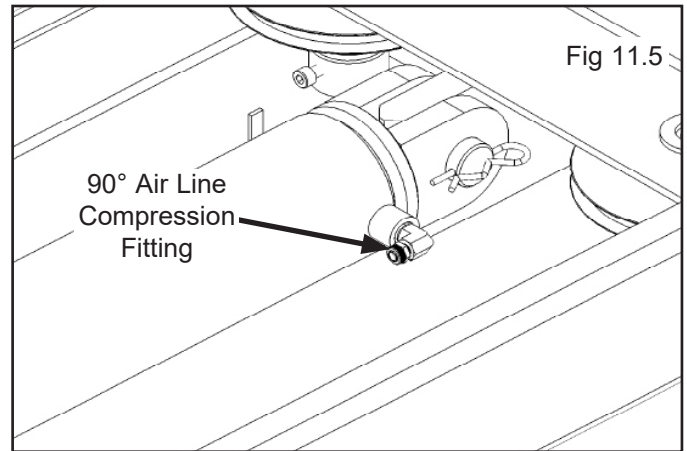

Fig 11.5
4. Install the 90-degree Air Line Compression Fitting in the port at the base, pinned end of the Cylinder. On the pipe thread side of the Fitting, it is recommended to use Teflon Tape or pipe sealer. (See Fig. 11.5)